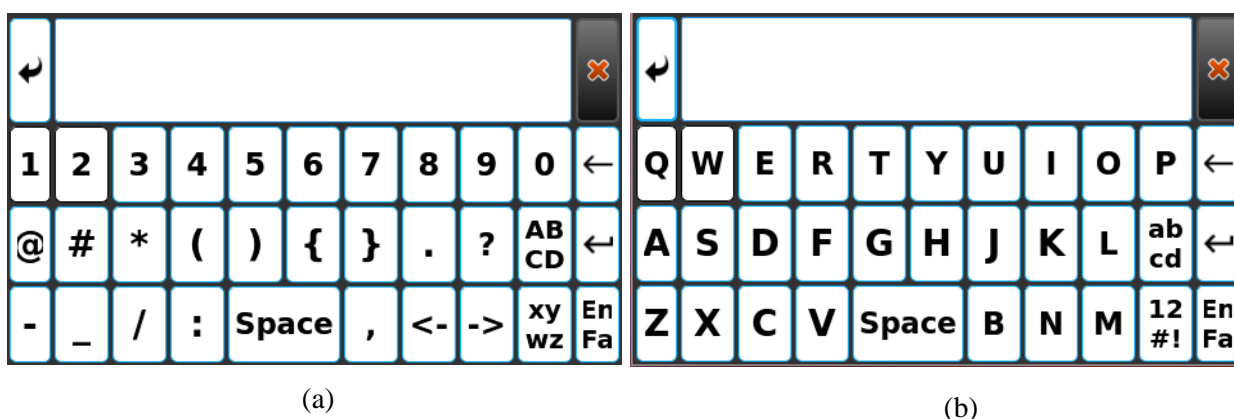

Figure 2-9 Virtual keyboard (a) numbers and symbols, (b) characters
Hospital/Ward: Select this item from the Setting Menu to open the virtual keyboard (figure 2-9) and enter hospital or ward name in the below window.
Factory: Pressing this key opens the virtual keyboard window (Figure 2-9). Screen calibration settings, hardware settings and Demo mode activation will be done in this menu. The operator does not have access to the options in this menu and only people approved by the manufacturer can apply the necessary settings in this menu.
- **Name:** Select this field to enter the patient's name. This opens the virtual keyboard (Figure 2-9). After entering the name, by selecting the Save option, the patient's name is saved and you exit this menu. It should be noted that a maximum of 20 letters can be entered. By selecting the Cancel option, you will enter the previous menu.
- **Age:** Select this field to enter the patient's age. This opens the virtual keyboard (Figure 2-9). The default unit is Years. The other available option is Mounths. After entering the age, by selecting the Save option, the patient's age is saved and you exit this menu. By selecting the Cancel option, you will enter the previous menu.
- **ID:** Select this field to enter the patient's ID. This opens the virtual keyboard (Figure 2-9). After entering the ID, by selecting the Save option, the patient's ID is saved and you exit this menu. It should be noted that a maximum of 20 letters can be entered. By selecting the Cancel option, you will enter the previous menu.
- **Weight:** Select this field to enter the patient's weight. This opens the virtual keyboard (Figure 2-9). The default unit is Kg. The other available option is lb. After entering the weight, by selecting the Save option, the patient's weight is saved and you exit this menu. By selecting the Cancel option, you will enter the previous menu.
- **Height:** Select this field to enter the patient's height. This opens the virtual keyboard (Figure 2-9). The default unit is cm. The other available option is Foot. After entering the height, by selecting the Save option, the patient's height is saved and you exit this menu. By selecting the Cancel option, you will enter the previous menu.
- **Physician Name:** Select this field to enter the physician name. This opens the virtual keyboard (Figure 2-9). After entering the physician name, by selecting the Save option, the physician name is saved and you exit this menu. It should be noted that a maximum of 20 letters can be entered. By selecting the Cancel option, you will enter the previous menu.